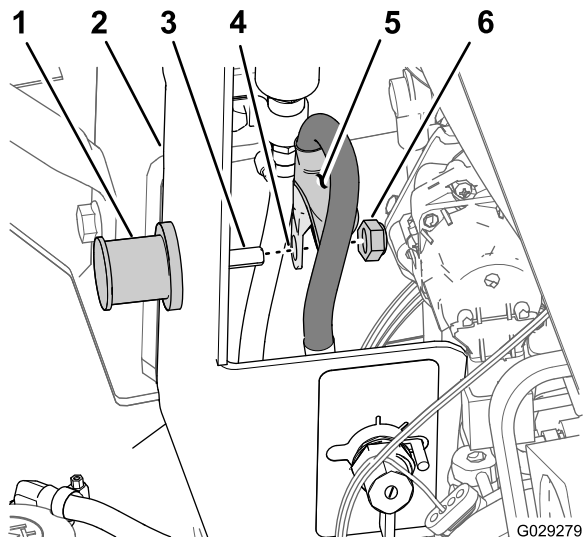

Figure 3
- At the inboard side of the jump post, move back the insulator boot, remove the nut, and remove the cable from the threaded stud (Figure 3).